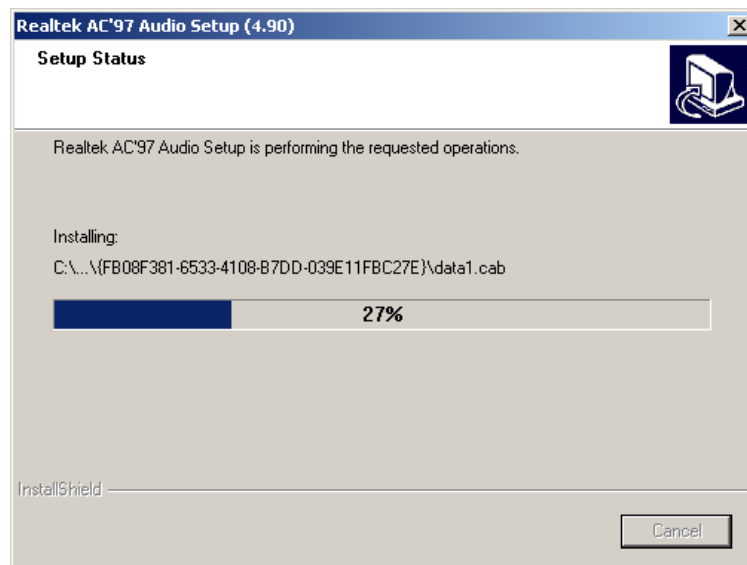

Figure 7-27: Audio Driver Software Configuration
Step 8: The install shield starts to install the new software as shown in **Figure 7-27**.